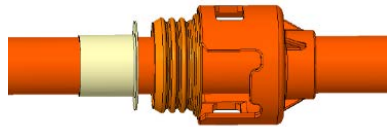

Figure 4: Before processing slide components onto cable
Step 1/步骤一 In order shown in figure 4, slide cover ,seal assy and Shield sleeve onto cable sheath, they are not in crimp work area.
按照图4所示的顺序，滑动保护盖，密封件和屏蔽套管到电缆护套上，使它们不在压接区域。
Step 2/步骤二 Strip and remove outer insulation wall, screening braid (if present screening foil), inner insulation wall and conductor from the end as shown in figure 4.
如图4所示，切开并去除外绝缘皮，屏蔽编织物（如果存在屏蔽箔），内绝缘皮和导体。